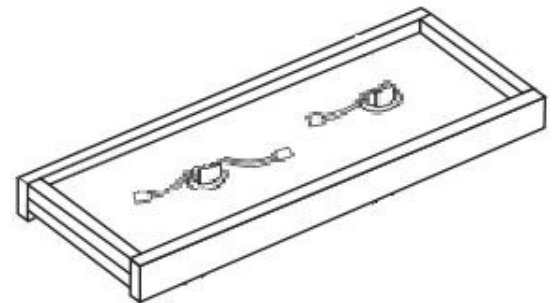

Fig. 2.
3. Place the wires through the opening in the header and mount the light fixture to the header using the screws provided as shown in Fig. 2.